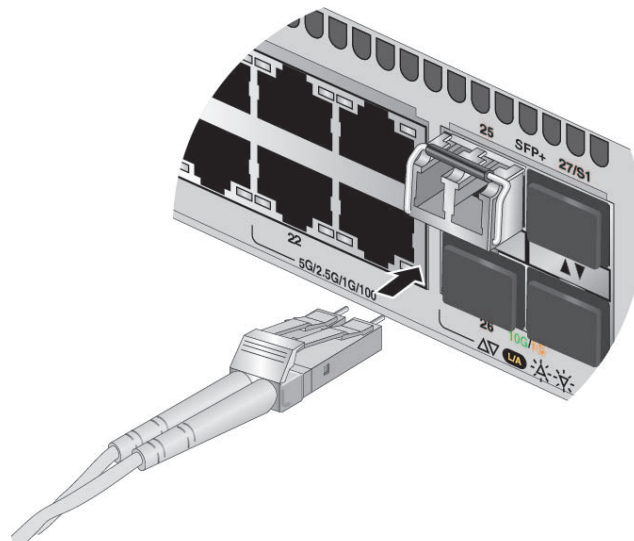

Figure 71. Connecting a Fiber Optic Cable to an SFP or SFP+ Transceiver
6. Connect the fiber optic cable to the transceiver, as shown in Figure 71. The connector on the cable must fit snugly into the port, and the tab must lock the connector into place.